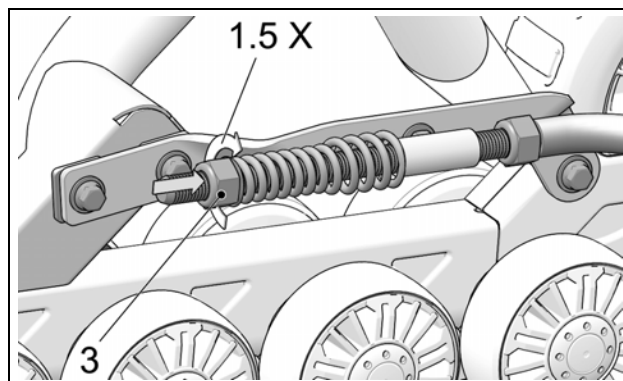

Figure 14
- Turn nut (3) until it comes in contact with spring, then compress spring by turning nut 1 1/2 turns. See Figure 14.